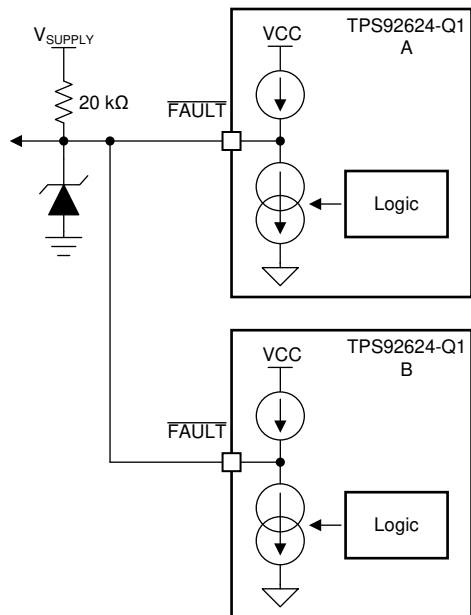
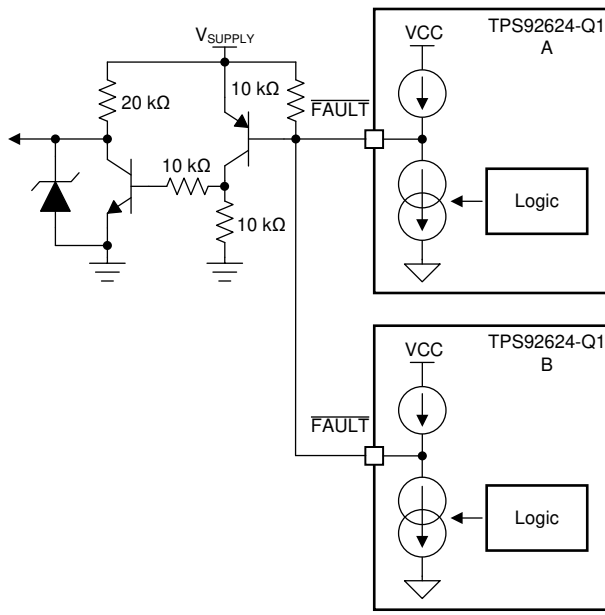

Figure 7-6. FAULT Bus for One-Fails-All-Fail Application
Figure 7-7. FAULT Bus for One-Fails-Others-On Application
Based on this feature, the TPS92624-Q1 device is able to construct a FAULT bus by tying $\overline{\text{FAULT}}$ pins from multiple TPS92624-Q1 devices to achieve one-fails-all-fail function as Figure 7-6 showing. The lower side TPS92624-Q1 (B) detects any kind of LED fault and pulls low the $\overline{\text{FAULT}}$ pin. The low voltage on $\overline{\text{FAULT}}$ pin is detected by upper side TPS92624-Q1 (A) because the $\overline{\text{FAULT}}$ pins are connected of two devices. The upper side TPS92624-Q1 (A) turns off all output current for each channel as a result. If the $\overline{\text{FAULT}}$ pins of each TPS92624-Q1 are all connected to drive the base of an external PNP transistor as illustrated in Figure 7-7, the one-fails-all-fail function is disabled and only the faulty channel device is turned off.